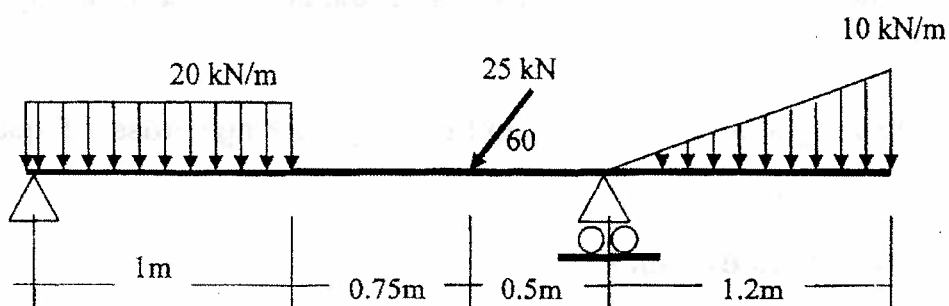

Fig. 1
15. Sketch the SFD and BMD for the overhanging simply supported beam loaded as shown in Fig. 1. Also find the point of contra flexure.